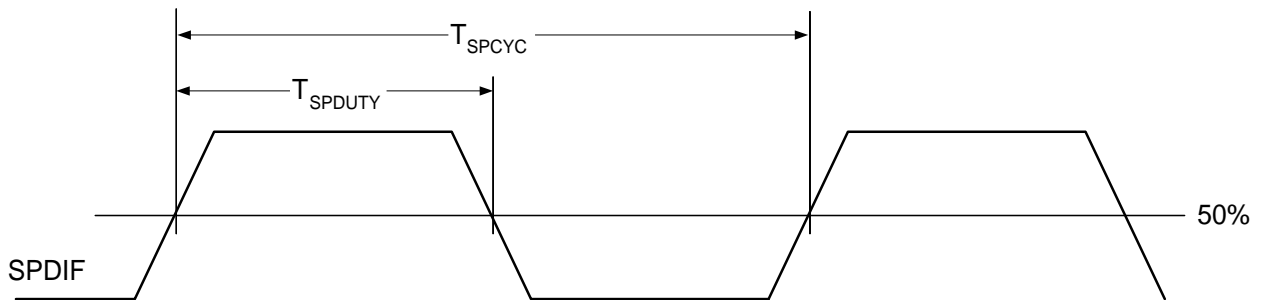
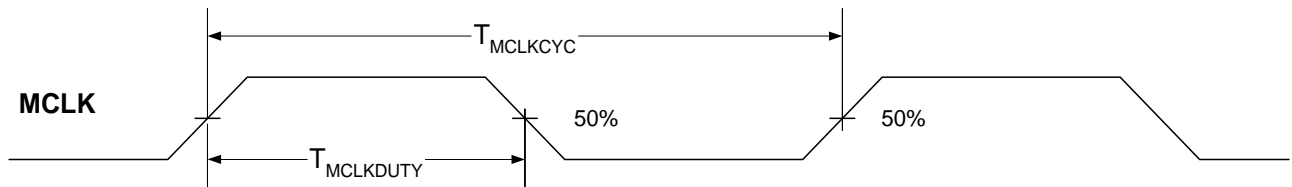

Figure 4.12. S/PDIF Output Timing
Figure 4.13. MCLK Timing
- Proportional to unit time (UI), according to sample rate. Refer to the S/PDIF specification.
- Refer to Figure 4.12 on page 29 and Figure 4.13 on page 29.